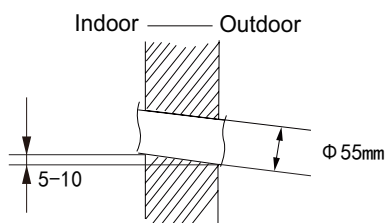

Fig.2
(2) Open a piping hole with the diameter of $\Phi 55\text{mm}$ on the selected outlet pipe position. In order to drain smoothly, slant the piping hole on the wall slightly downward to the outdoor side with the gradient of 5-10°. (As show in Fig.2)